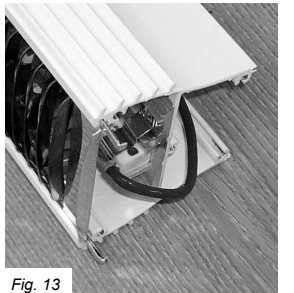

Fig. 13
13. Turn the heater over and starting with one end of the heater, place one of the emitter leads into the back of the heater and shape it so it is clear of the screw hole for the end casing (Fig. 13).